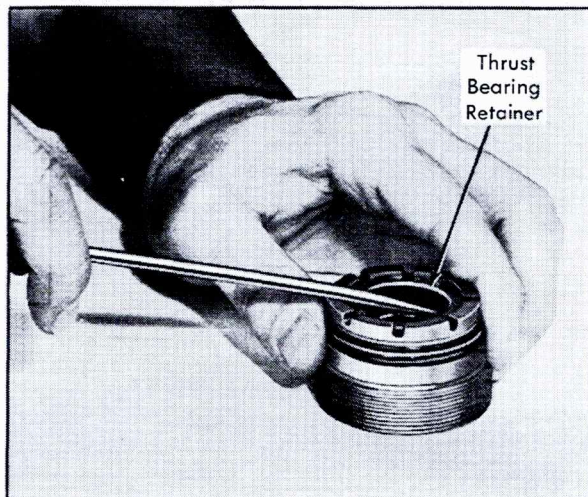

Fig. 9-27 Removing Thrust Bearing Retainer
1. Remove thrust bearing retainer with a screwdriver, Fig. 9-27, being careful not to score needle bearing bore, and discard. Remove thrust bearing spacer, thrust bearing, and thrust bearing races.